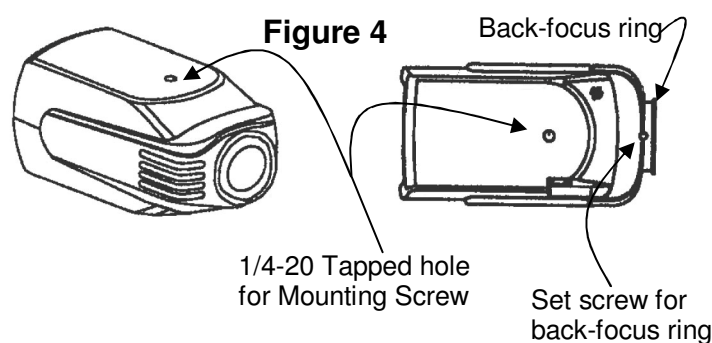

Figure 4
5. Mount the camera in the desired location using either of the 1/4-20 tapped holes on the top and bottom of the camera (see Figure 4).
- c. Loosen the set screw which holds the silver back-focus ring in place using the provided 1/16" Allen wrench (see Figure 4).